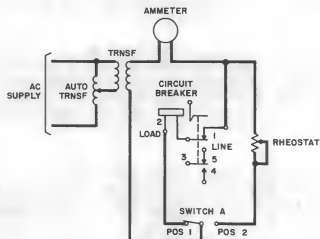

Fig. 18—Checking Circuits—AC Breakers—KS-15713, KS-15815 L5-L18, L46, L47, KS-15943 L1, KS-19735 L1, KS-20684 L5
(e) **KS-15713:** To check a KS-15713 circuit breaker, proceed in accordance with Method 3. Refer to Fig. 18.
- (m) **KS-15943:** To check the KS-15943 circuit breaker, proceed in accordance with Method 2 except adjust current to 130 percent of the breaker rating instead of 120 percent. Refer to Fig. 18.
- (o) **KS-19735:** To check a KS-19735 circuit breaker, proceed in accordance with Method 3. Refer to Fig. 18.